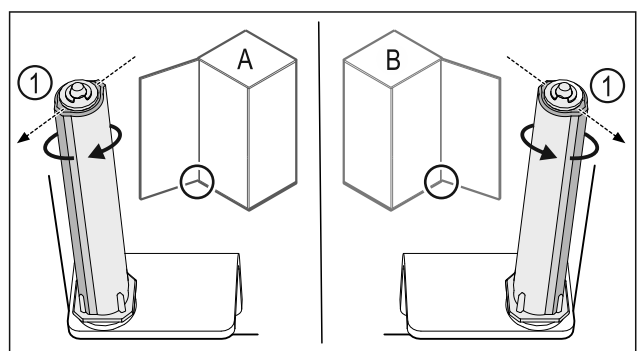

Fig. 45 Left-hinged (A) / Right-hinged (B)
- Turn the closing system against the resistance until the bar of the closing system *Fig. 45 (1)* points outwards.